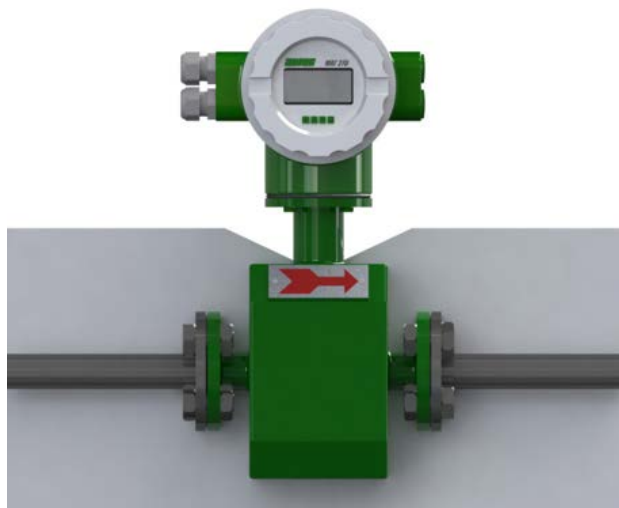

Fig.2.6 - Flowmeter heat insulation
- Heat insulation shall not stretch over the mark (see fig.2.6);